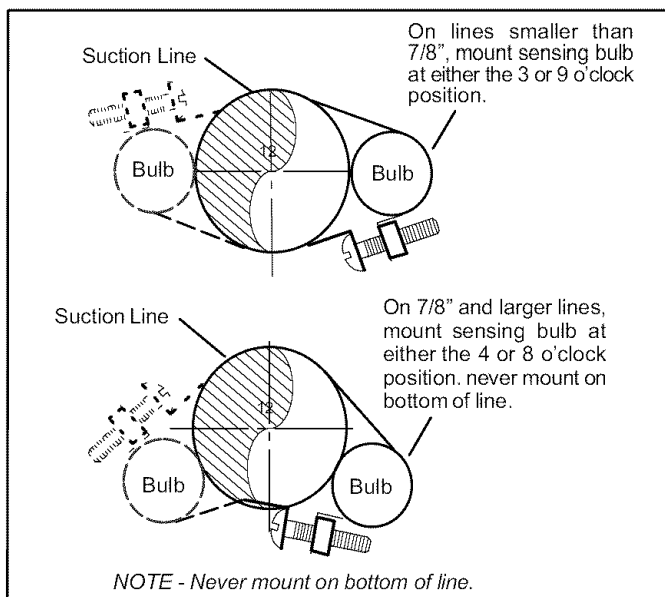

Figure 21. TXV Sensing Bulb Installation
5. Attach the suction line sensing bulb in the proper orientation as illustrated in figure 21 using the clamp an screws provided.